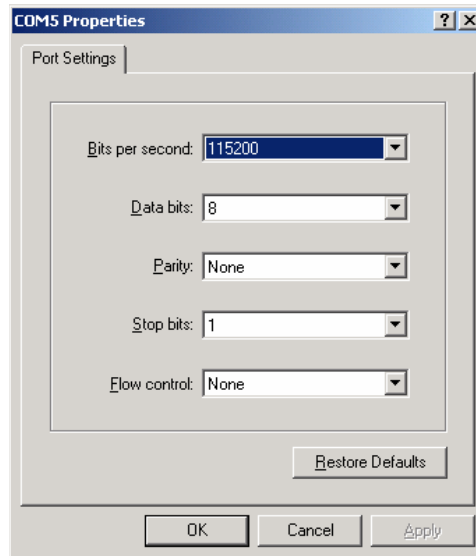

Figure 1. Serial COM port setting in hyperterminal
3. Select the serial port and then set the properties of connection as below (Figure 1).